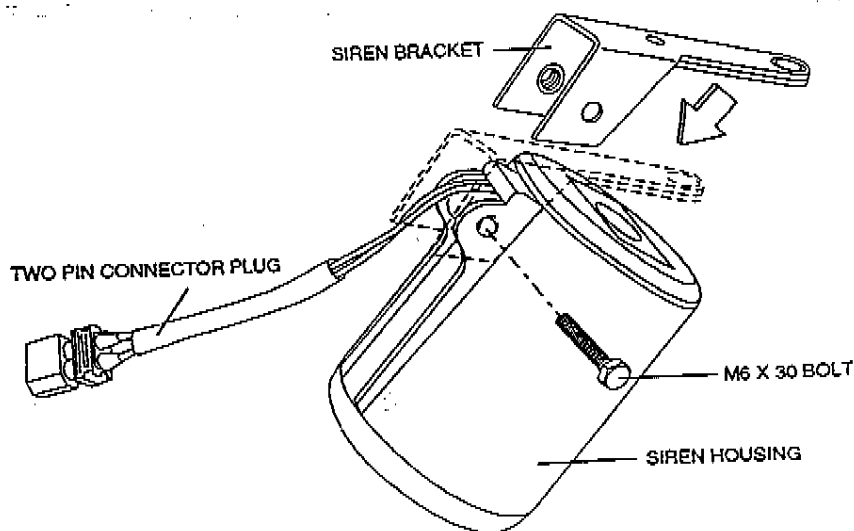

FIGURE 20
3. See Figure 20 . Attach siren bracket to siren housing as shown.